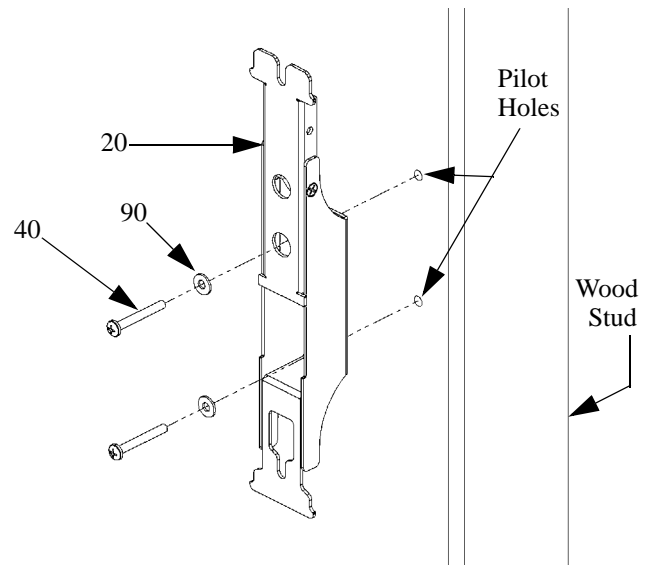

Figure 7: Install Speaker Wall Bracket On Wood Stud
2. Using the speaker wall bracket (20) as a template, level the unit and mark the location of the two mounting holes.
3. Drill two pilot holes for anchoring the wall bracket. If drilling into wood studs, use a 1/8" drill bit. (see figure 7)
4. Using two #10 wood screws (40) and two #10 washers (90), install the wall bracket on the wall.
5. Repeat the procedure to install the second speaker wall bracket (20).